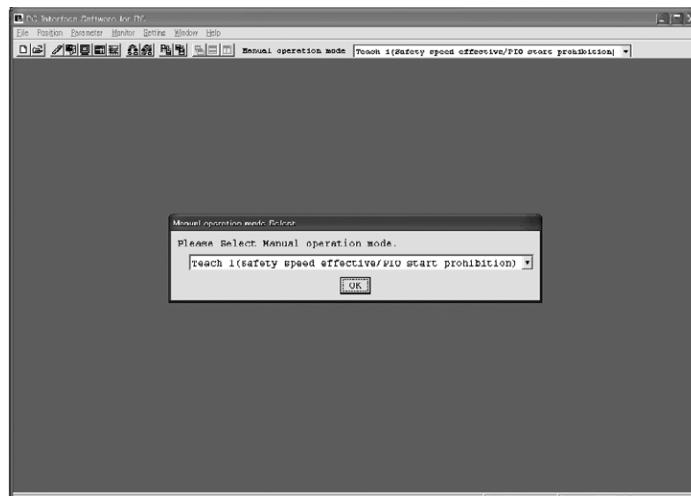

Fig. 1.43 Manual Operation Mode Select Window
- [5] When a check for the connected axis is completed, the main window is displayed, and at the same time, a window to select Manual operation mode shown in Fig. 1.43 is displayed.